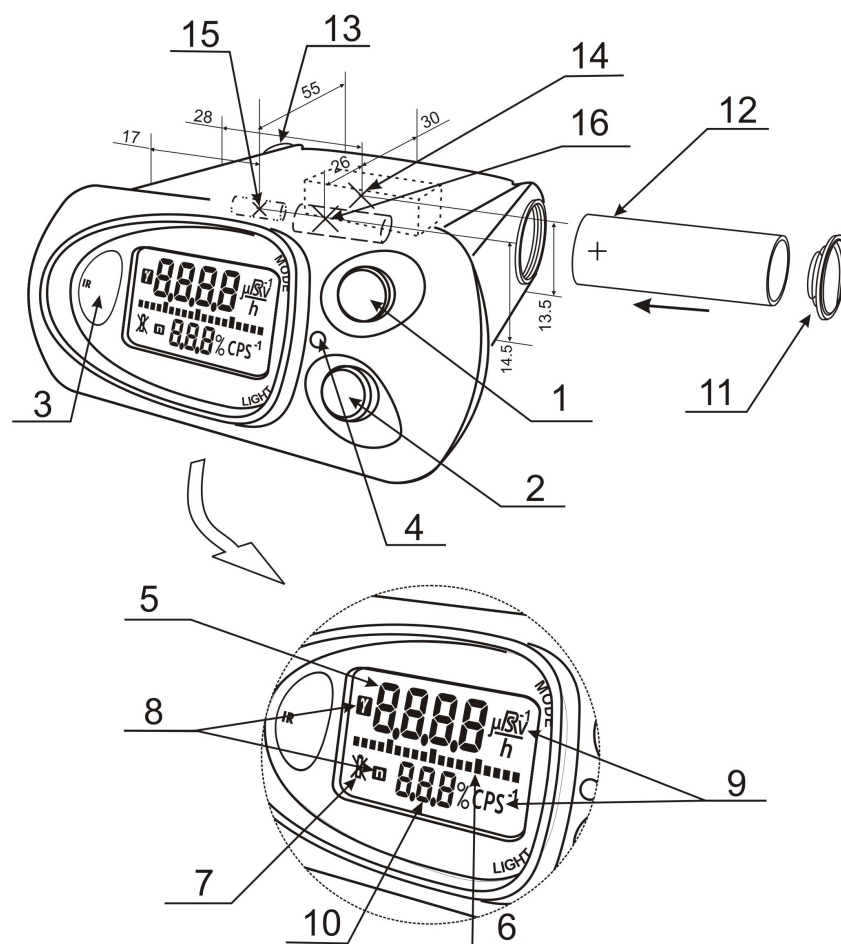

Figure 2
For installation of the supply cell a cover of the supply section is to be unscrewed (11) (figure 2) with the aid of a special spanner included to the supply set; to be installed to the supply cell by observing polarity (the cell electrode marked with "+", must be directed inside the indicator); the cover of the supply section is to be restored.
Two push buttons for the device control are located on the front panel of the indicator: (MODE) and (LIGHT), a liquid crystal display (LCD), a window of the IR transmitter-receiver, a light diode (LED), figure 2.